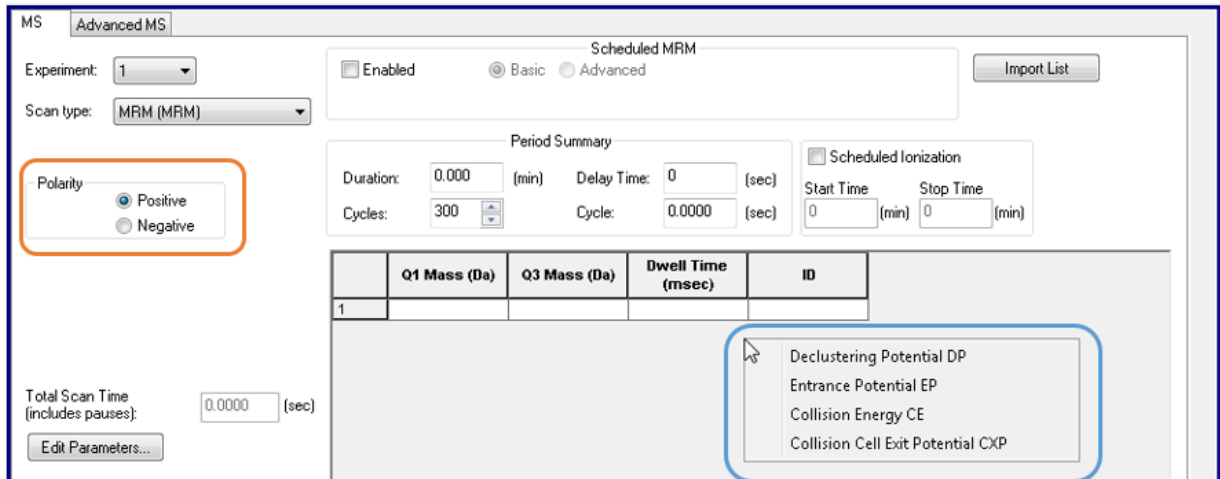

Figure B-2: Defining the positive polarity Information for experiment 1.
4. Select positive polarity for the first experiment as indicated in the orange box in **Figure B-2**. Move the mouse to where the blue box is indicated and right click to add the Collision Energy (CE) to the MRM table.
5. In the left-hand navigation bar of the method, right click on *Period* to add new experiment. Select negative polarity for the second experiment as indicated in the red box in **Figure B-2**.